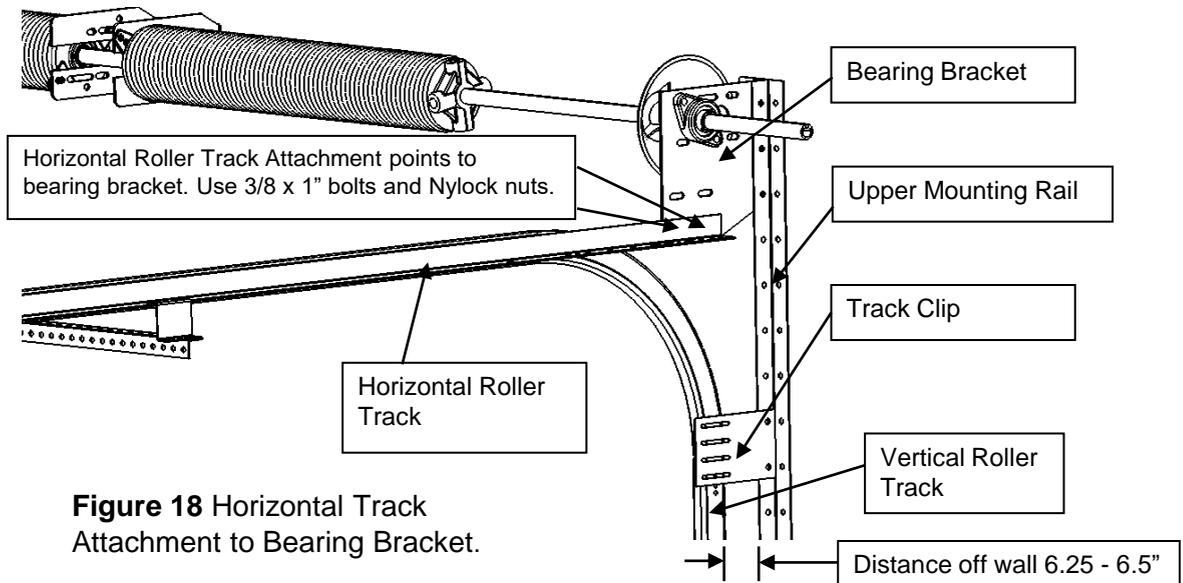

Figure 18 Horizontal Track Attachment to Bearing Bracket.
3. Attach the horizontal rail the lower slots of the bearing bracket and secure with (2) 3/8-16x1 bolts and Nylocks. **(SEE FIGURE 18)**
6. Install the track clips to secure both the upper vertical roller track and the lower section of the curved roller track using the DR2218 sidewalk bolts. There should be smooth transition Between the track sections. **(SEE FIGURE 18)**